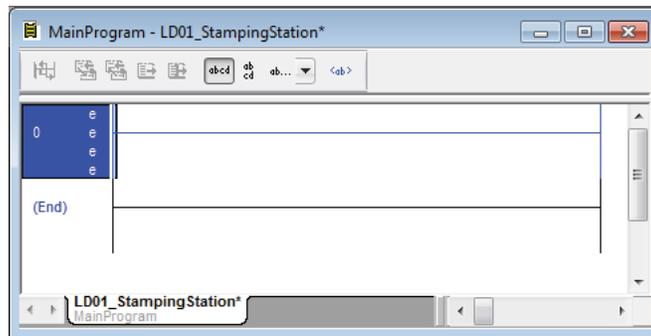

Figure 99. Empty routine.
11. Open the newly created routine *LD01* (Figure 99). We see that there are two rungs already: the *(End)* rung that is not editable, and rung *0*.